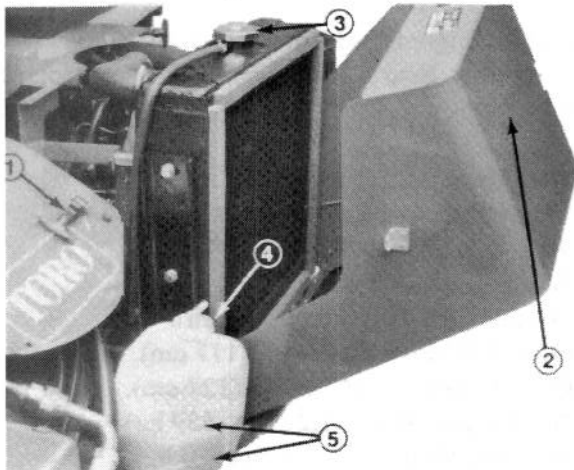

Figure 1
2. Remove the dipstick from the left front of the engine, wipe the end with a clean rag and insert it fully into the dipstick tube (Fig. 1). Remove the dipstick and check the oil level. If the oil level is low, go to step 3. If the oil level is up to the FULL mark on the dipstick, insert the dipstick and close and latch the hood. Continue with the pre-operat-
3. If the oil level is low, unscrew the oil fill cap from the top of the engine (Fig. 1). Add a small quantity of a high-quality SAE 30 or 10W-30 detergent oil having the American Petroleum Institute—API—"service classification" CD and recheck the dipstick level. Continue until the oil level is up to the FULL mark on the dipstick. Do not overfill.